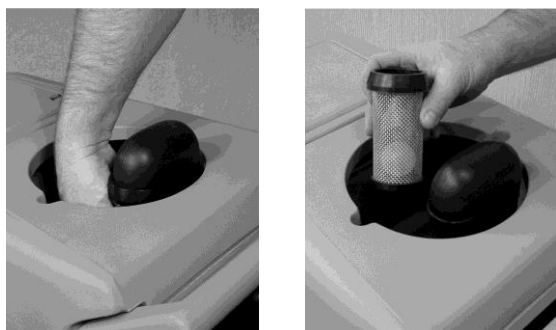

FIG. 12
2. Remove float shut-off screen from recovery tank and clean (Figure 12.)